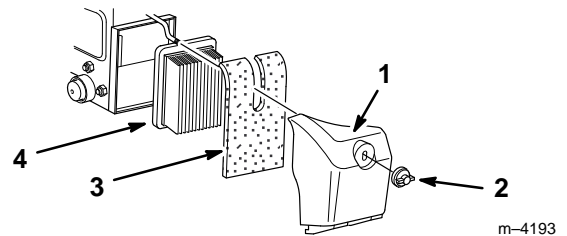

Figure 16
2. Remove the nut securing the air cleaner cover (Fig. 16).
3. Remove the cover and clean it thoroughly (Fig. 16).
4. Remove the foam pre-cleaner and wash it with a mild detergent and water, then blot it dry (Fig. 16).
6. Remove the paper air filter and discard it (Fig. 16).
8. Insert the foam pre-cleaner into the cover and install the cover on the engine, securing it with the nut (Fig. 16).